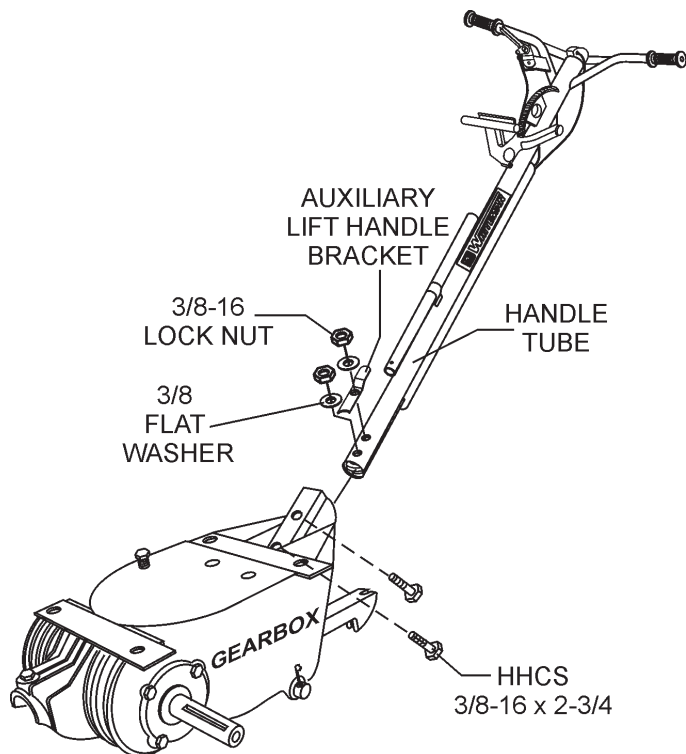

Figure 5. Handle Tube Installation
1. Install the **handle tube** to the gearbox as shown in Figure 5. The mounting hardware should be contained in the shipping container.